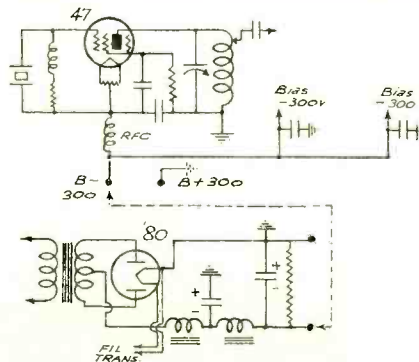

FIG. 1
**B**Y GROUNDING the positive lead from an oscillator power supply and leaving the negative "high", as shown in Fig. 1, we have available 250 to 350 volts of negative bias that we can use on a buffer, doubler or final amplifier.